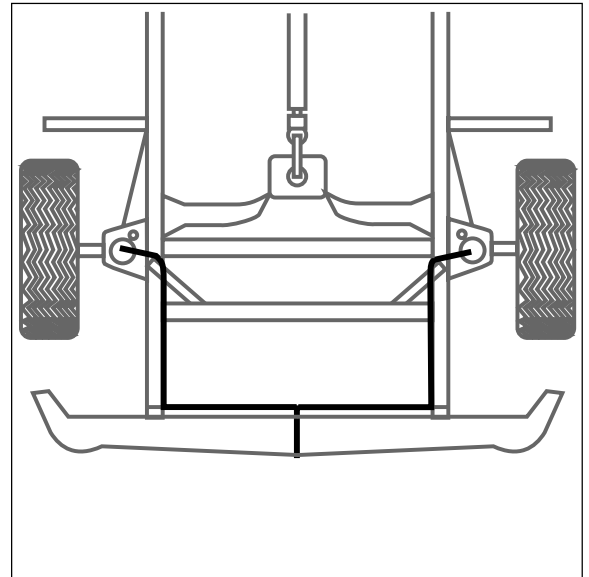
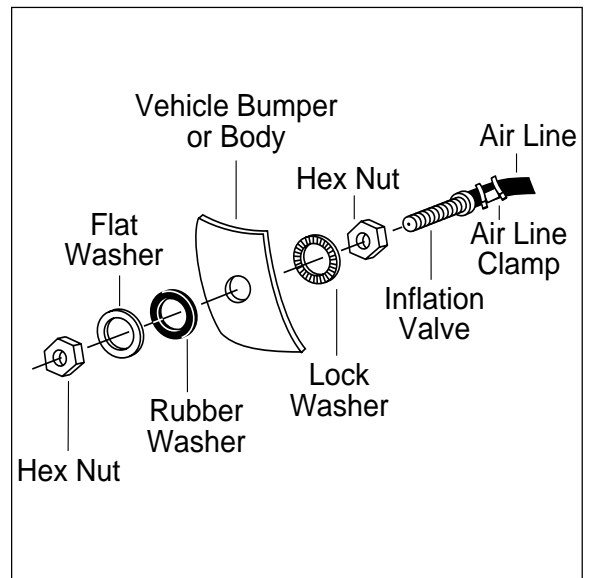

Figure 6
Figure 7
- (8) Push the remaining air line over the last fitting on tee and route along frame to desired inflation valve location (Figure 6). Attach with plastic straps or wire.
- (9) Select a location for inflation valve in the gas cap well, the trunk, rear bumper, fender flange or behind the license plate, assuring that the valve will be protected and accessible with an air hose.
- (10) Drill a  $\frac{5}{16}$ " hole for inflation valve and mount as in illustration (Figure 7). Rubber washer is for outside weather seal.
- (6) Repeat process for right side.
- (7) Drill  $\frac{5}{16}$ " hole for inflation valves and mount as illustrated. Rubber washer is for outside weather seal (Figure 7).
- (8) Route air line along control arm and frame to inflation valve location and cut off excess.